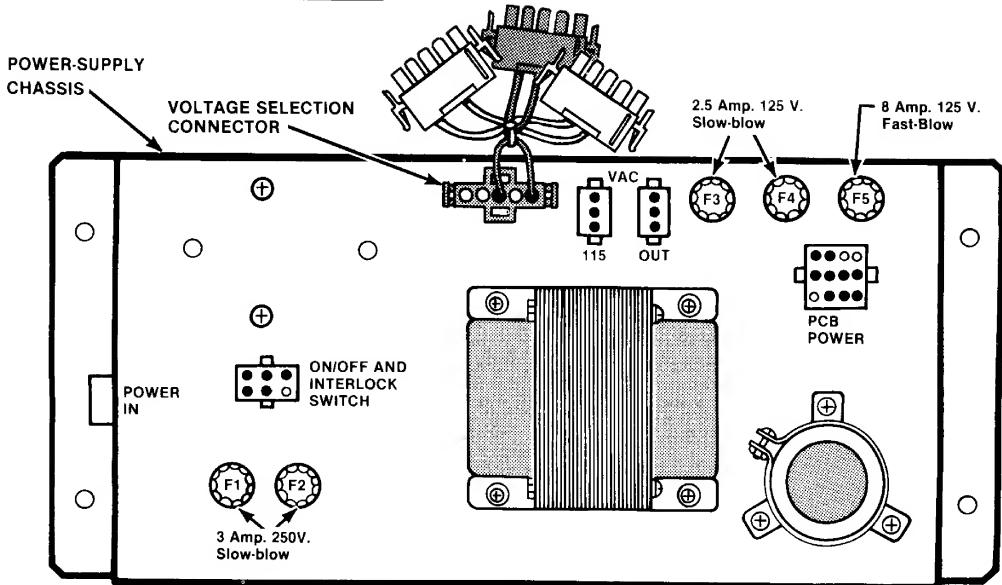

Figure 1-3 Voltage Selection Connectors
2. If AC line voltage is consistently below 100 VAC, plug in the *black* low-voltage connection, on the power supply chassis. See Figure 1-3.
2. If AC line voltage is consistently below 210 VAC, plug in the *green* low-voltage connection. See Figure 1-3.